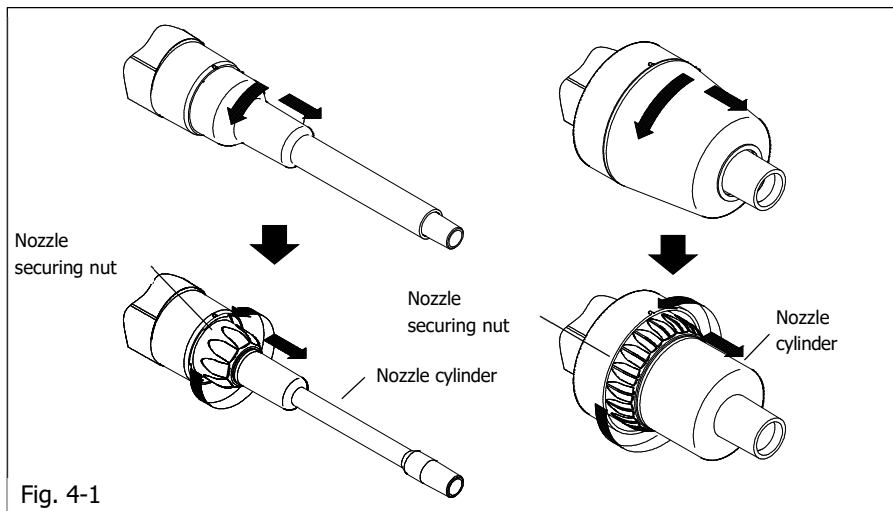

Fig. 4-1
- 1) Turn the ejector pipe counterclockwise until it stops, and pull it out. (Fig. 4-1)
- 2) Turn the nozzle securing nut in the direction of the arrow to remove the nozzle cylinder. (Fig. 4-1)